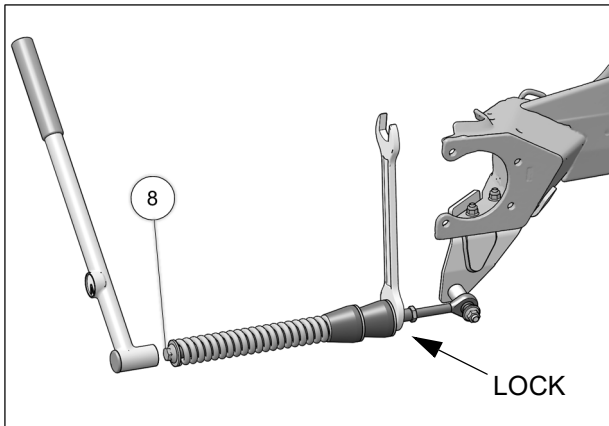

Fig. 10
10. Verify that spring assembly bolt (8) is tightened to the recommended torque specification: 75 N•m [55 lb•ft]. Make sure to lock in position, the large nut in front of the rubber cone dampers. Refer to Fig. 10